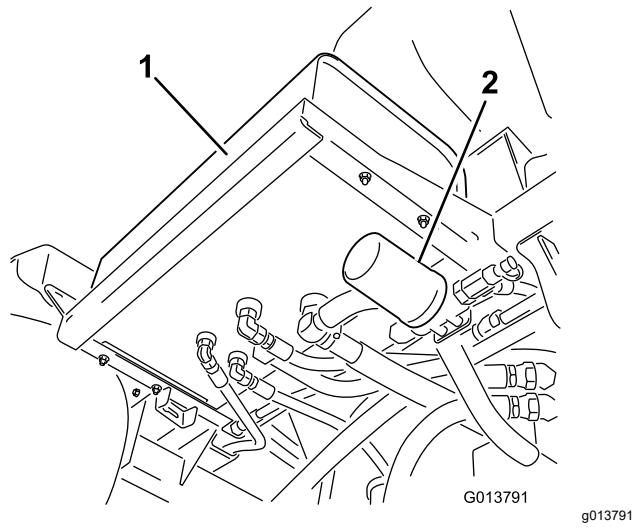

Figure 104
2. Locate the 2 hydraulic filters on the machine (Figure 104 and Figure 105).